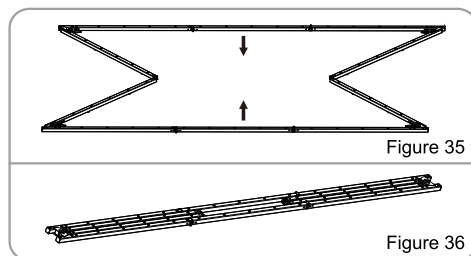

Figure 35
6. Fold the main frame as arrows indicate (Figure 35 - 36).